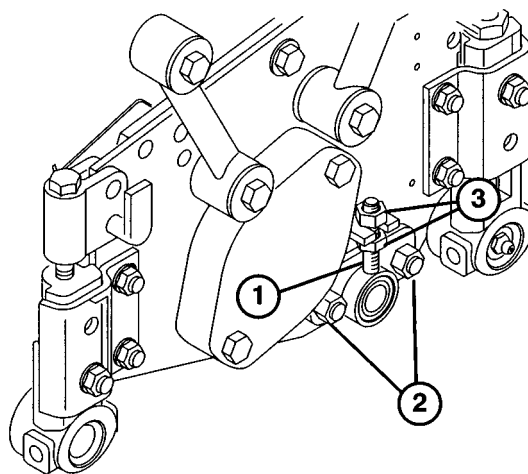

Figure 4
4. Loosen the (2) carriage bolts on the bedbar adjuster (Fig. 4).
5. Adjust the nuts to move the bedbar adjuster up or down until the paper is pinched along the entire bedknife surface when the bedknife adjustment knob is adjusted to no more than two clicks beyond the first contact of the reel bedknife (Fig. 4).